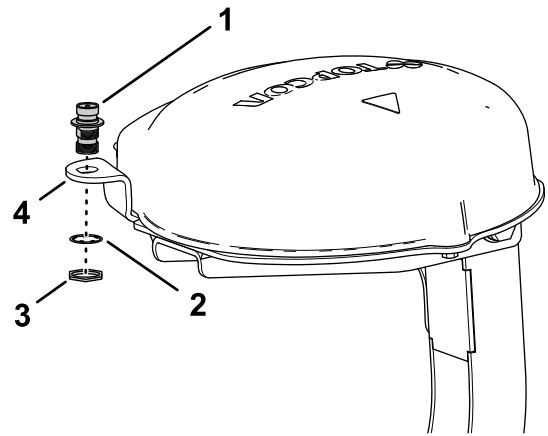
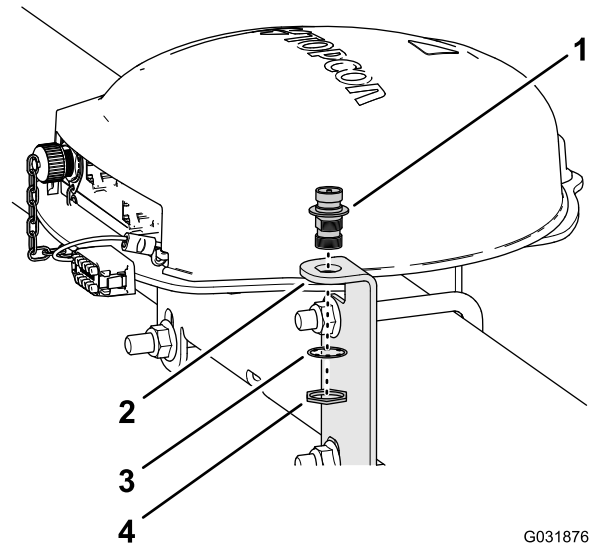

Figure 45
Figure 46
3. Remove the coaxial coupler, lock washer, and jam nut from the bracket (Figure 45 or Figure 46).